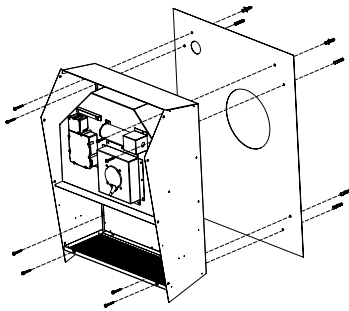

FIG. 14
This product is to be installed by a qualified technician. Using the appropriate drilling jig (Fig. 14) drill all the holes marked on it into the external wall, paying attention not to damage water pipes or power lines.
- › The corresponding plastic dowels supplied (Fig. 14).